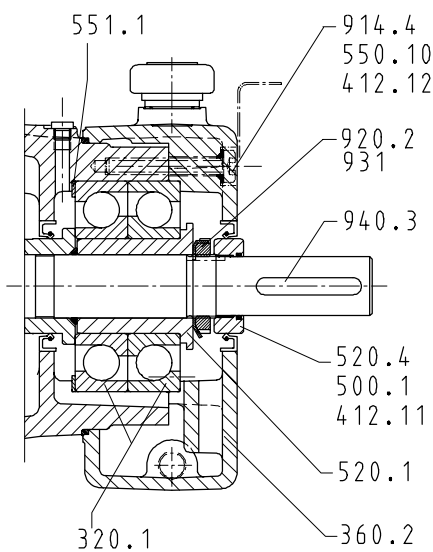

Fig. 28
**Oil lubrication with lip seal (fig. 28)**